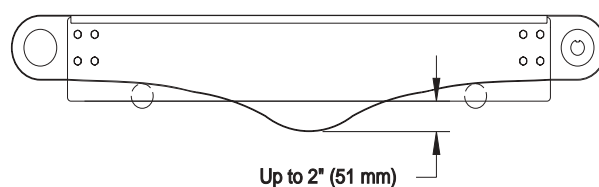

Figure 24
7. Check belt sag by measuring from the bottom of conveyor frame (**Figure 24**). Belt sag should not exceed 2" (51 mm).